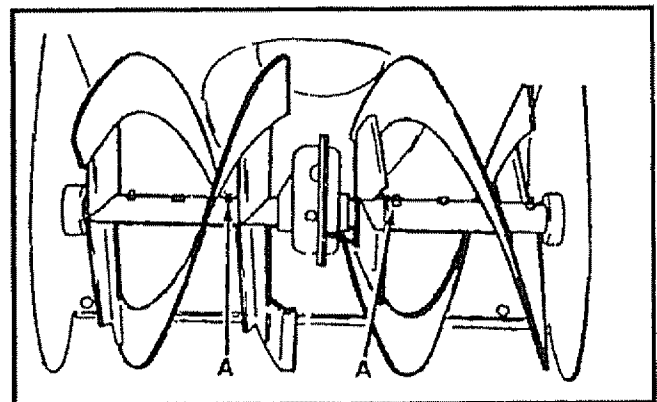

FIG. 16
- Auger Shaft - Using a hand grease gun, lubricate the auger shaft zerk fittings (See A, Fig. 16) every ten (10) operating hours. Each time a shear bolt is replaced (see To Replace Auger Shear Bolt paragraph on page 22), the auger shaft MUST be greased.